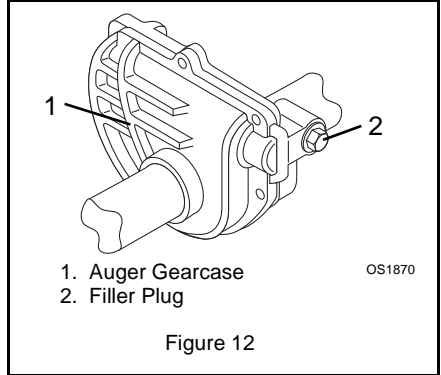

Figure 12
1. Remove filler plug (Figure 12). Lubricant must be at least up to bottom of lubricant filler hole with unit resting on a level surface.